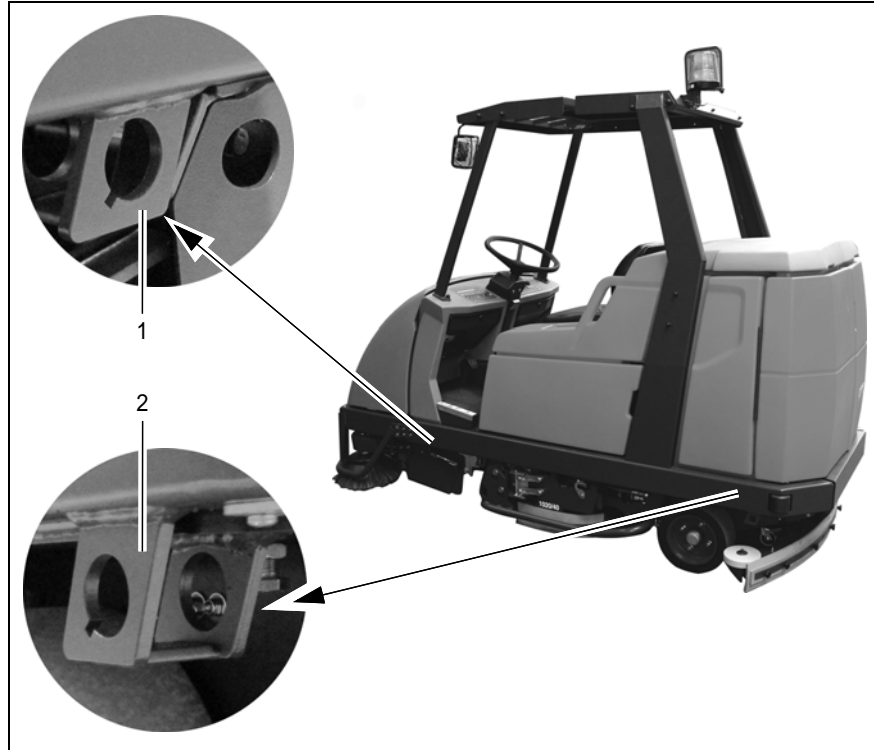

Fig. 44
- The vehicle is provided with attachment points (lashing eyes) on the left and right-hand side to do this: at the rear of the frame and on the sides at the height of the entry area (Fig. 44/1+2).